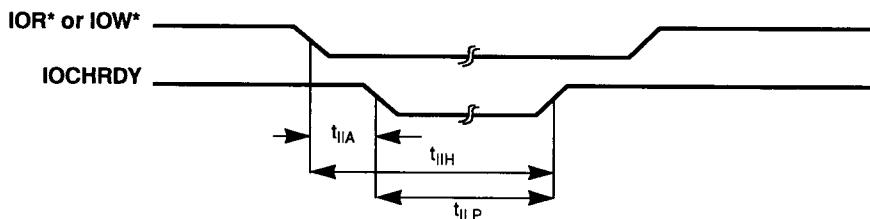

Figure 6-8. IOCHRDY Timing for I/O Access (ISA Bus)
- 3) See Figure 6-8 for IOCHRDY* timing.